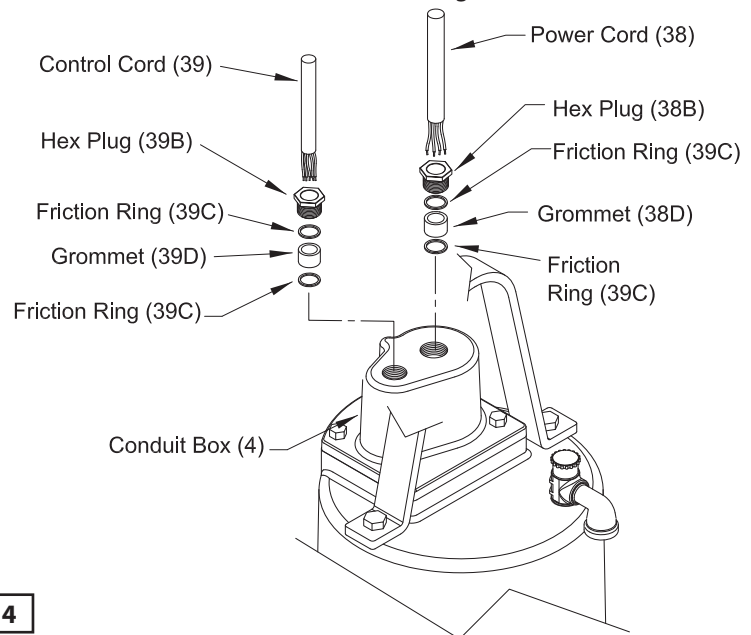

Figure 4
Conduit Box Assembly - Check power (38) and control (39) cables for cracks or damage and replace complete conduit box (4) if required. (See Figure 4) Bring motor wires through opening in top of motor housing (3), check sleeving and replace if damaged. Position square ring (5) in conduit box (4) and reconnect leads using connectors and insulators. See Figures 5, for wiring schematics.
Remove gland nuts (38B) & (39B), friction rings (38C) & (39C), and grommets (38D) & (39D) from conduit box (4), inspect and replace if damaged (See Figure 4).